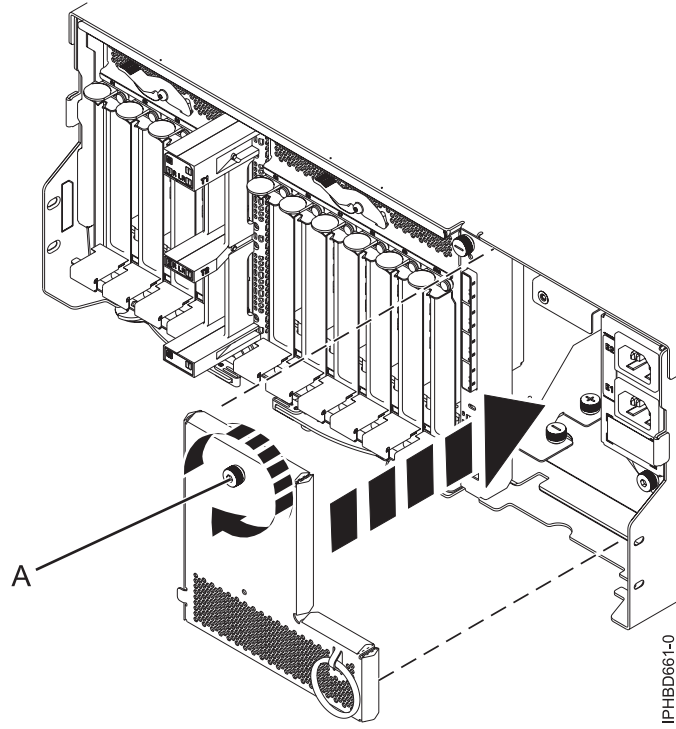

Figure 29. Replacing an input power distribution assembly cover
6. Replace the input power distribution assembly cover, and then tighten the thumbscrew (A) as shown in Figure 29 on page 29.